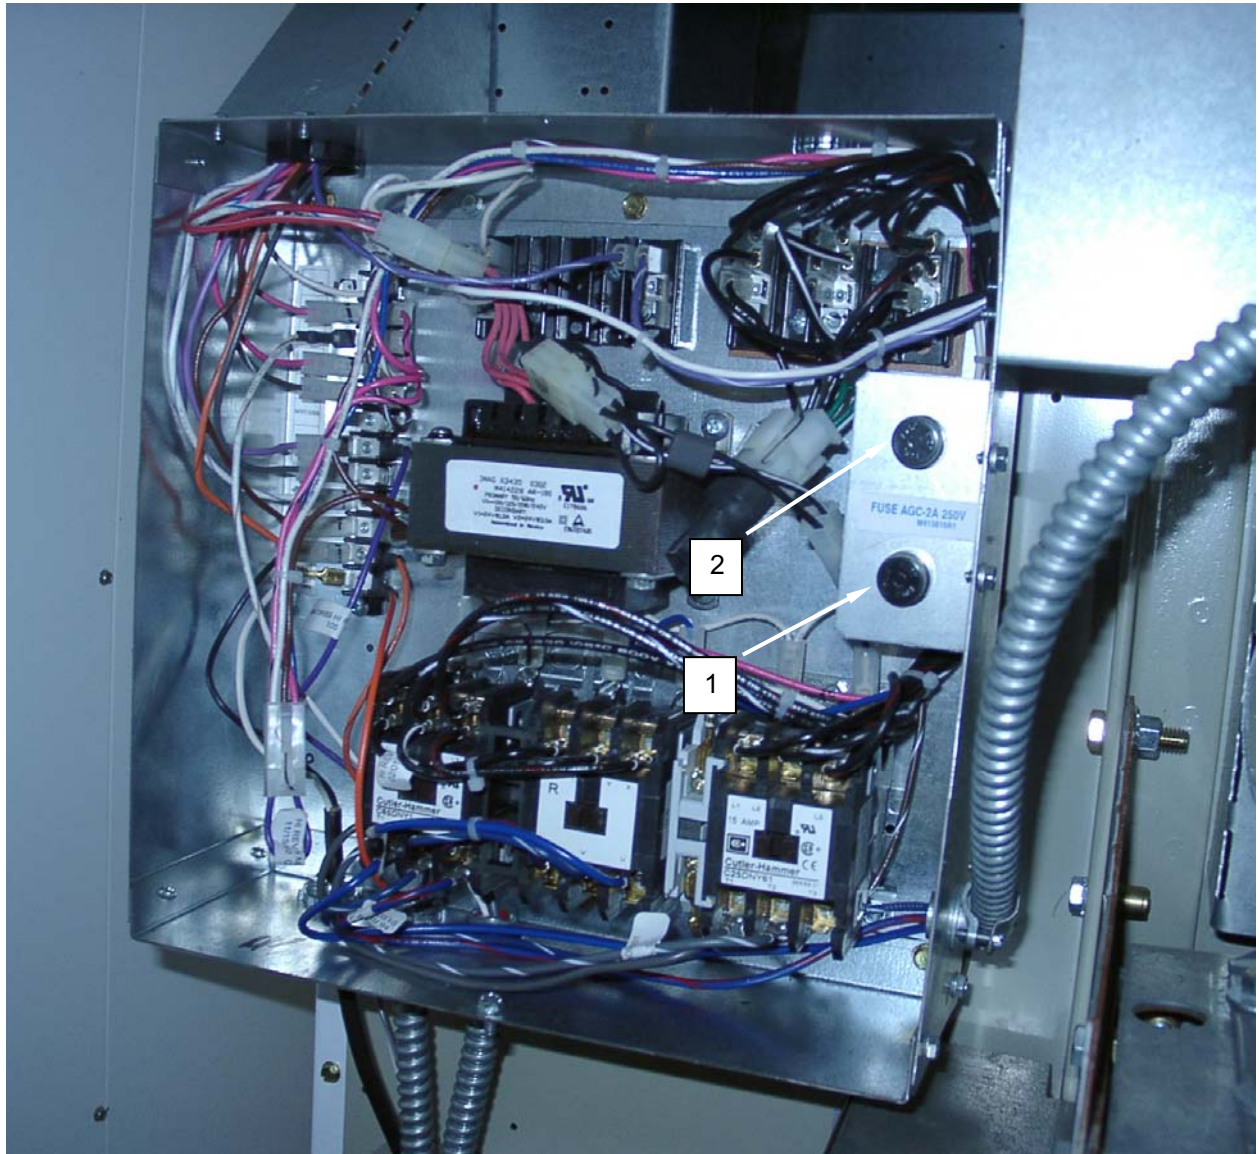

Figure 1. Test the Dryer Transformer Fuses.
3. Locate primary fuse (**Figure 1, Item 1**).
4. Unscrew fuse holder cap (**Figure 1, Item 1**).
5. Remove fuse from cap (**Figure 1, Item 1**).
6. Use an ohmmeter to test the fuse (**Figure 1, Item 1**) for continuity.
7. Replace an open fuse (**Figure 1, Item 1**).
8. Install fuse into cap (**Figure 1, Item 1**).
9. Install cap (**Figure 1, Item 1**) with fuse into fuse holder.
10. Repeat Steps 4 through 9 for the secondary fuse (**Figure 1, Item 2**).